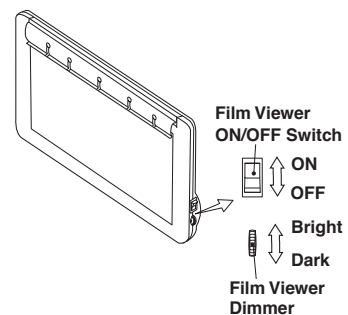

Fig.3-22 Panorama Size Film Viewer
(2) Panorama Size Film Viewer (Fig.3-22)(Optional)
(1) Standard Type Foot Control (Type A2) (Fig.3-22)